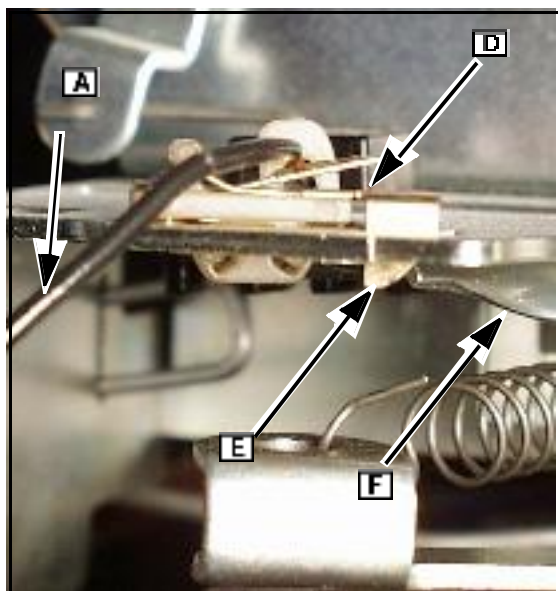

Fig. 39
8. Move stop switch wire(s) ([A] Fig. 39). Continuity should remain constant. If intermittent or no continuity exists, repair or replace wire(s) or connections.
9. Move test lead from stop switch wire ([A] Fig. 39) to engine ground.